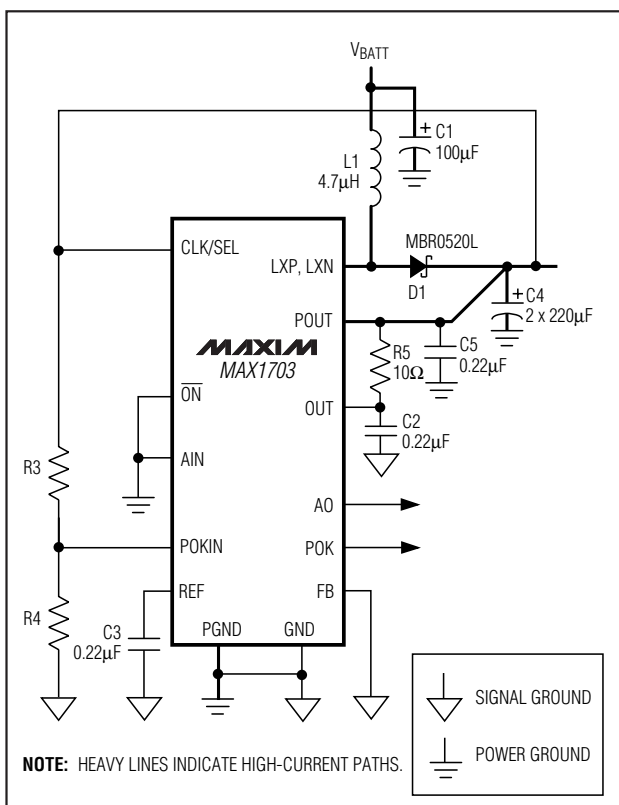

Figure 2. MAX1703 in High-Power PWM Mode
**Note 3:** Start-up is tested with the circuit of Figure 2.
The MAX1703 is optimized for use in cellular phones and other applications requiring low noise during full-power operation, as well as low quiescent current for maximum battery life in low-power mode and shutdown. It features constant-frequency (300kHz), low-noise PWM operation with up to 1.5A output capability. See Table 1 for typical outputs. A low-quiescent-current, low-power mode offers an output up to 150mA and reduces quiescent power consumption to 300µW. In shutdown mode, the quiescent current is further reduced to just 1µA. Figure 2 shows the standard application circuit for the MAX1703.
Set the output voltage between 2.5V and 5.5V by connecting a resistor voltage-divider to FB from OUT to GND, as shown in Figure 2. The resistor values are then as follows: